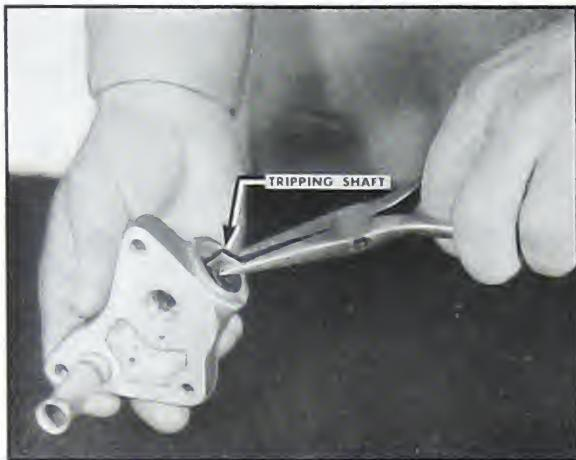

Fig. 5-252. Lift out tripping shaft
6. Pull out the reset spring and lift out the tripping shaft. Fig. 5-252.